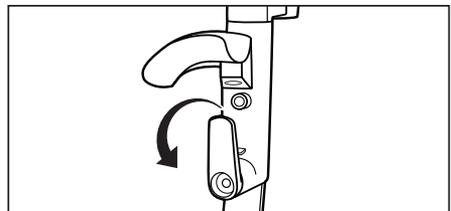
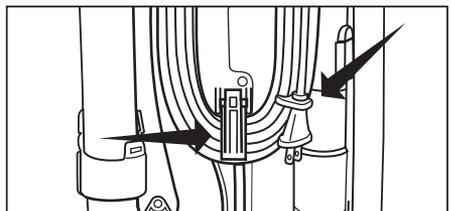

Fig. 4
Fig. 5
- The Quick Release Upper Cord Hook rotates to allow for quick access to the power cord. Turn the upper cord hook downward and you can quickly drop the power cord to the floor without unwinding it from the cord hooks (Fig. 4).
- When storing the vacuum cleaner, turn the Quick Release Upper Cord Hook to the upright position and wrap the power cord around the upper cord storage hook (Fig. 4) and the spring-activated lower cord hook (Fig. 5). Fasten the plug to the wrapped cord using the channel on the plug.